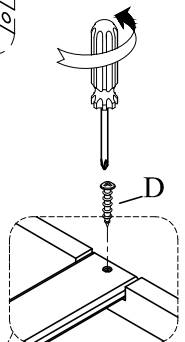

Figure 3
- STEP 4. Mount the assembled support slats onto the side rail with screws (D). Then use a phillips head screwdriver to tighten screws. See Figure 3.